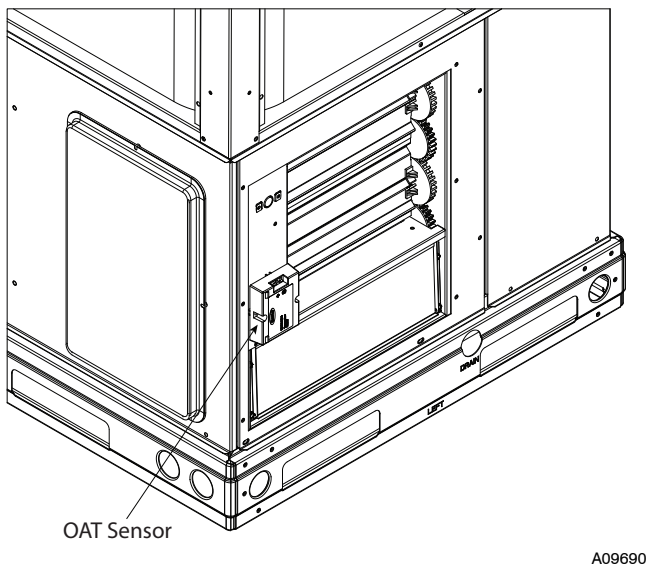

Fig. 24 - Oat Sensor Installed
4. Remove red shipping tape that attaches the outside air temperature (OAT) sensor to the economizer assembly. Using two #8 fasteners, found in the hood package, attach the OAT sensor to the economizer according to Fig. 24.